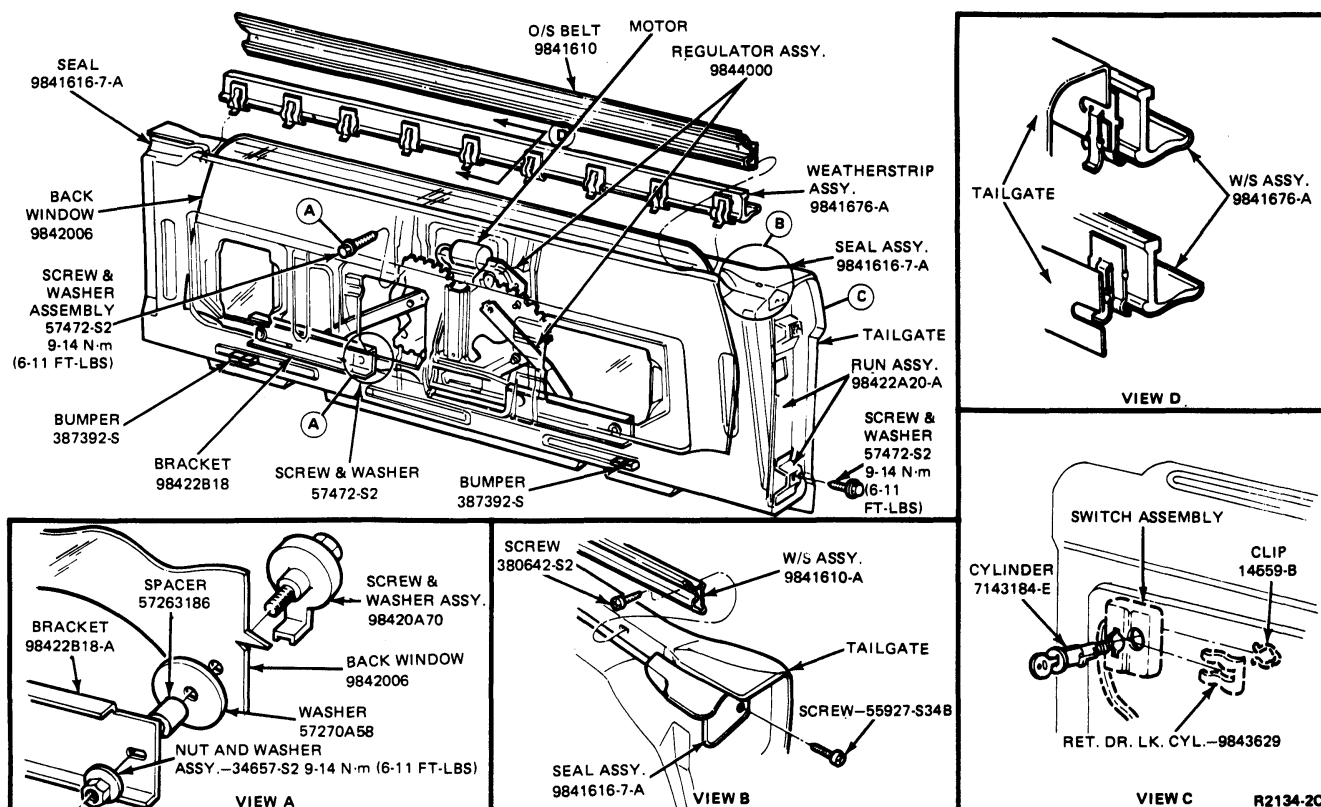

FIG. 1 Tailgate Window Mechanism and Belt Weatherstrips—Bronco
1. Fore and aft adjustments can be made after opening the tailgate by loosening the back window-side glass run attaching screws (2 per side). Adjust the glass as required and tighten the attaching screws 9-14 N·m (6-11 ft-lbs) (Fig. 1).
2. Remove the inside cover panel and remove four screw assemblies, washers and nuts attaching the glass to the glass brackets (Fig. 1, View A).